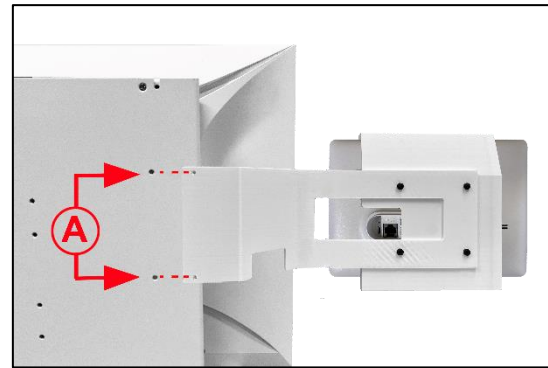

Figure 24. Aligning Navigator Mounting Bracket
The rear of the Cisco Navigator support assembly is first lined up with the mounting holes on the rear of the Cisco 20x CLINiC (A) as shown in Figure. 24.